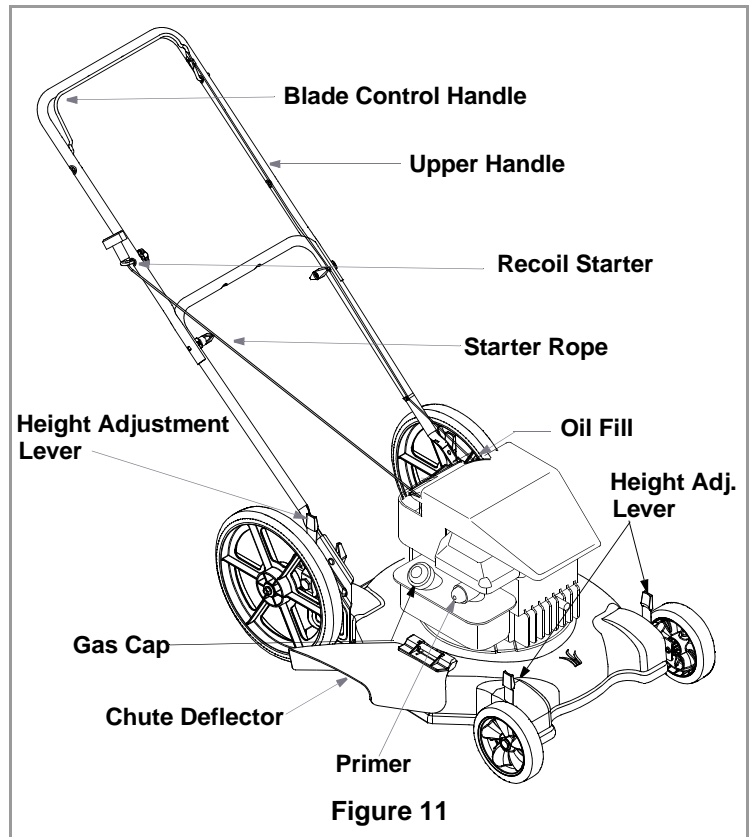

Figure 11
Now that you have set up your lawn mower for operation, get acquainted with its controls and features. These are described below and illustrated in Figure 11. This knowledge will allow you to use your new equipment to its fullest potential.
- Check oil level and add oil if necessary. Follow engine manual for this. See Figure 11 for location of oil fill.
- Service the engine with gasoline as instructed in the engine manual. See Figure 11 for location of gas tank.